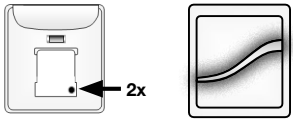

Fig. 24
A. Starting with the primary control, press and release the program button on the back side of the current remote twice in rapid succession (two taps). The LED light will alternately flash amber and green to identify inclusion mode. (Fig. 24)